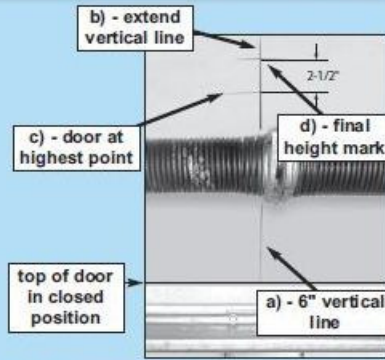

FIG 2-1 Final height mark.
- b) Continue this line on wall above door for about 12" (Fig. 2-1, a).
- Mark height measurement on wall above door (Fig. 2-1, c).
- Add 2-1/2" to height mark just made on wall. This is location for header bracket (Fig. 2-1, d).